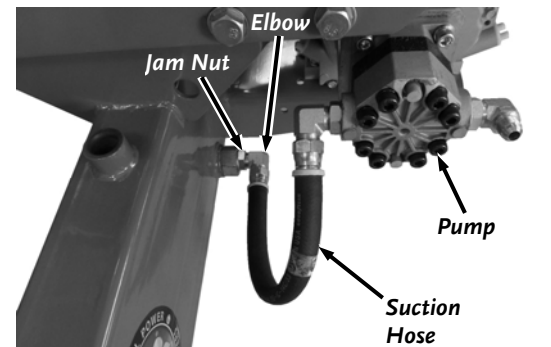

Figure 13
19. Install the Elbow Hydraulic Fitting into the Tank assembly by hand until it cannot be turned any more with your hand. If needed, turn the Elbow back to align it parallel with the ground and facing out (**Figure 13**).